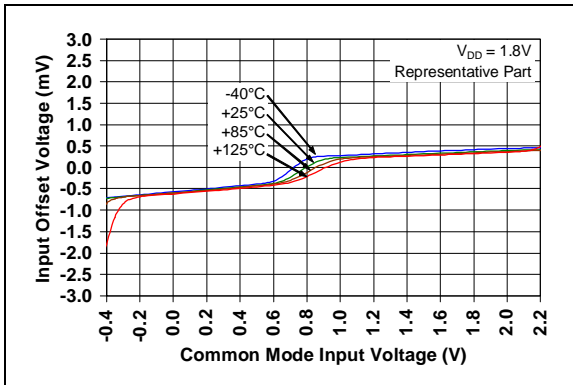

**FIGURE 1-1:** AC and DC Test Circuit for Most Specifications.
Electrical Characteristics: Unless otherwise indicated, $T_A = +25^{\circ}C$ , $V_{DD} = 5.0V$ , $V_{SS} = GND$ , $V_{CM} = V_{SS}$ , $V_{OUT} \approx V_{DD}/2$ , $V_L = V_{DD}/2$ , and $R_L = 10$ k $\Omega$ to $V_L$ (refer to <a href="#">Figure 1-1</a> ).
**Electrical Characteristics:** Unless otherwise indicated,  $T_A = 25^\circ\text{C}$ ,  $V_{DD} = +5.0\text{V}$ ,  $V_{SS} = \text{GND}$ ,  $V_{CM} = V_{SS}$ ,  $V_{OUT} \approx V_{DD}/2$ ,  $V_L = V_{DD}/2$ ,  $R_L = 10\text{ k}\Omega$  to  $V_L$  and  $C_L = 60\text{ pF}$  (refer to Figure 1-1).
The circuit used for most DC and AC tests is shown in Figure 1-1. This circuit can independently set  $V_{CM}$  and  $V_{OUT}$ ; see Equation 1-1. Note that  $V_{CM}$  is not the circuit's common mode voltage ( $(V_P + V_M)/2$ ), and that  $V_{OST}$  includes  $V_{OS}$  plus the effects (on the input offset error,  $V_{OST}$ ) of temperature, CMRR, PSRR and  $A_{OL}$ .